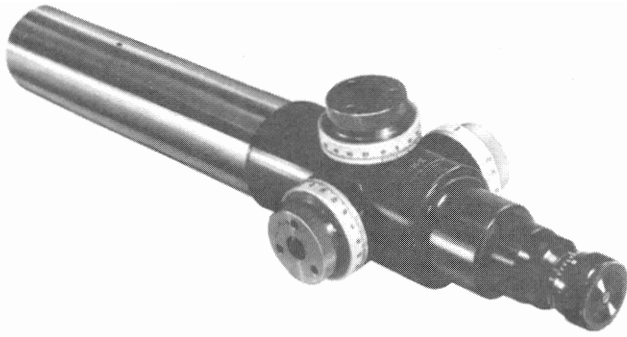

Figure 1. Alignment Telescope Equipped with two micrometers to measure displacement in all four directions.
1. The alignment telescope (Figure 1)